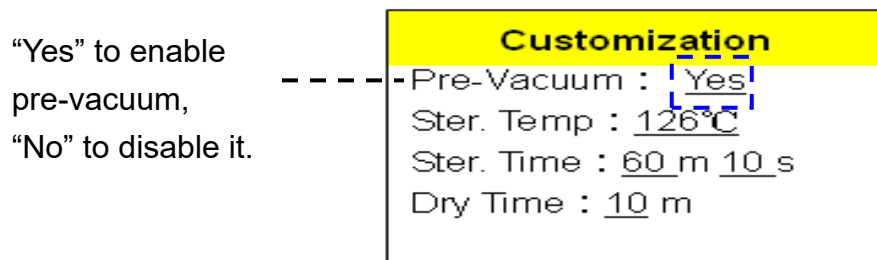

Figure 63
- D. Press  button to enter editing mode, and then press  or  button to select “Yes” or “No”. Press  button to store Pre-Vacuum parameter as shown in Figure 63.